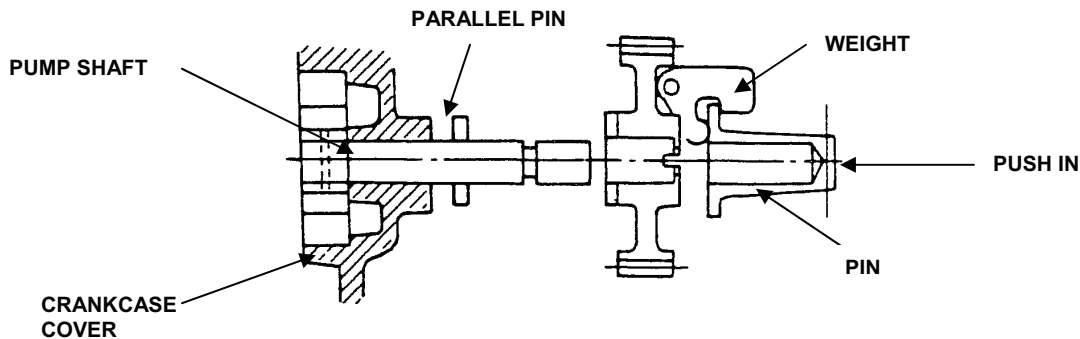

Figure 2. Lubricating Oil Pump Installation.
2. Install the inner rotor with pump shaft from outside of the crankcase cover. See Figure 2.